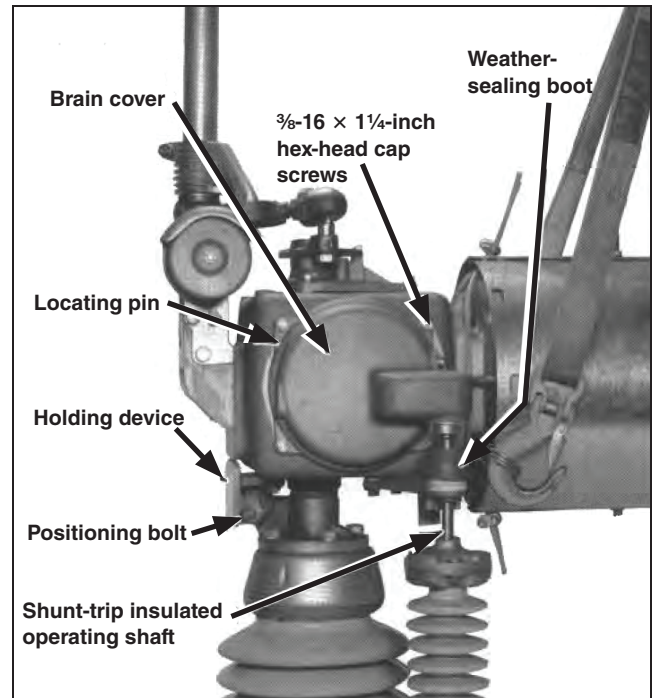

Figure 6. Vertical-break style circuit-switcher brain with holding device and shunt-trip device.
The holding device consists of a stop bushing, factory-set in the bracket attached to the underside of the brain, plus a tab on the brain operating shaft. Insert a $\frac{1}{2}$ -13 \times 2 $\frac{3}{4}$ -inch positioning bolt through the tab and stop bushing and secure it with a flat washer and nut, as shown in Figure 6.
STEP 5. For circuit-switchers equipped with the S&C Shunt-Trip Device, the silicone-rubber weather-sealing boot should be pulled downward to expose the tongue-and-groove coupling. See Figure 6.
Remove the four $\frac{3}{8}$ -16 \times 1 $\frac{1}{4}$ -inch hex-head cap screws (two may be shoulder bolts) from the brain cover on the side of the brain opposite from the interrupter target. See Figure 6. Retain the cap screws.